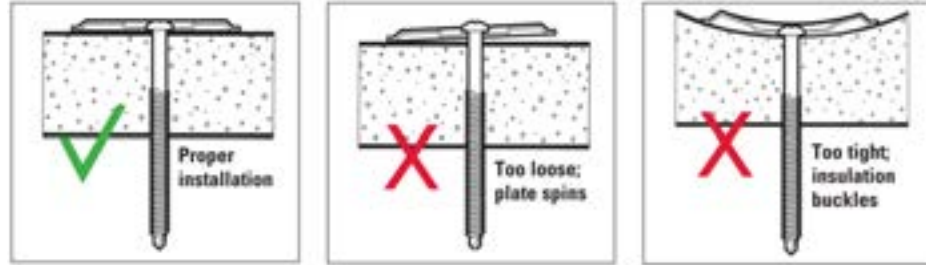

Figure 3
- d. Secure plates with RhiniBond fasteners. For best installation results, use a variable speed screw gun (2,500 rpm max.) Do not overdrive fasteners. (See Figure 3)